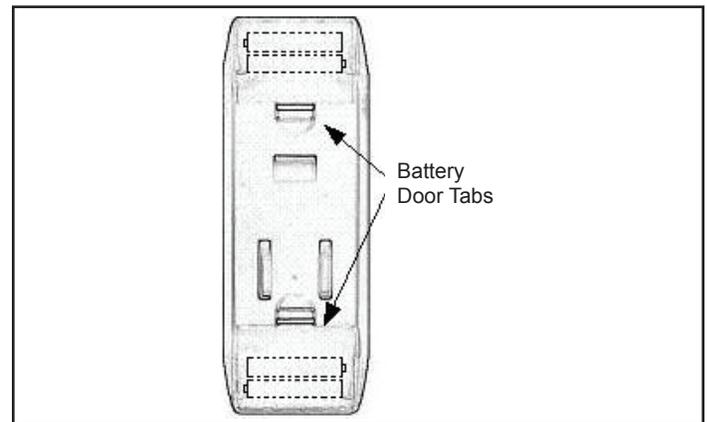

Figure 5.3 - Replacing the battery
**Initialization and Setting up / Installing Batteries (Figure 5.3)**